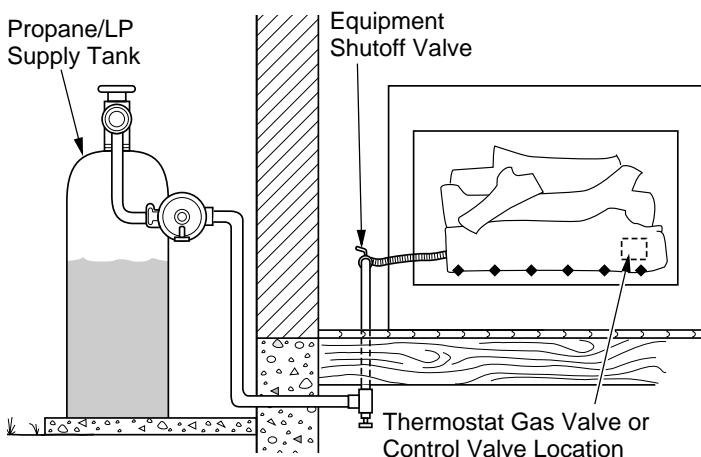

Figure 18 - Checking Gas Joints
3. Check all joints from propane/LP supply tank to equipment shutoff valve (see Figure 18). Apply a noncorrosive leak detection fluid to all joints. Bubbles forming show a leak.
4. Check all joints from equipment shutoff valve to control valve (see Figure 18). Apply a noncorrosive leak detection fluid to all joints. Bubbles forming show a leak.